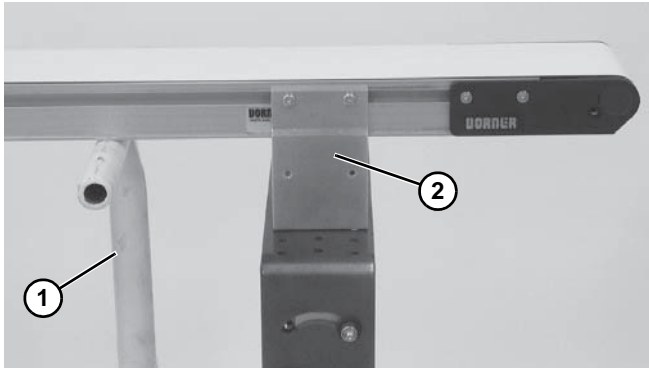

Figure 44
- Place temporary support stands (**Figure 44, item 1**) at both ends of the conveyor.
- Remove mounting brackets (**Figure 44, item 2**) from one side of conveyor. (Reverse steps 3 & 4 of “Mounting Brackets” on page 21.)